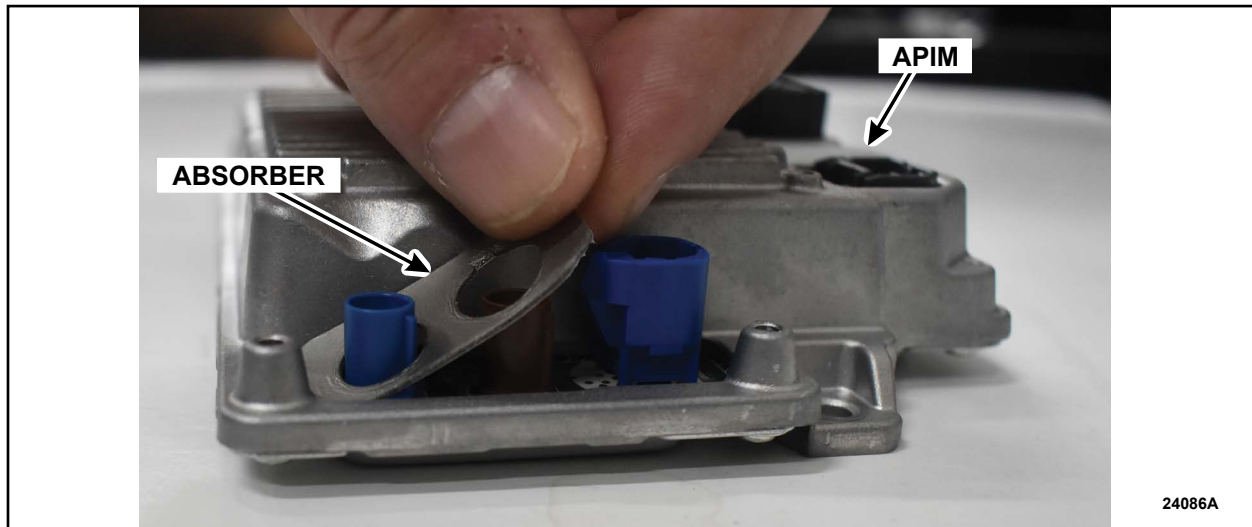

FIGURE 1
2. Remove the paper liner to expose the adhesive on the absorber. Using a tilting motion install the absorber, adhesive side down, on the APIM. See Figure 1.